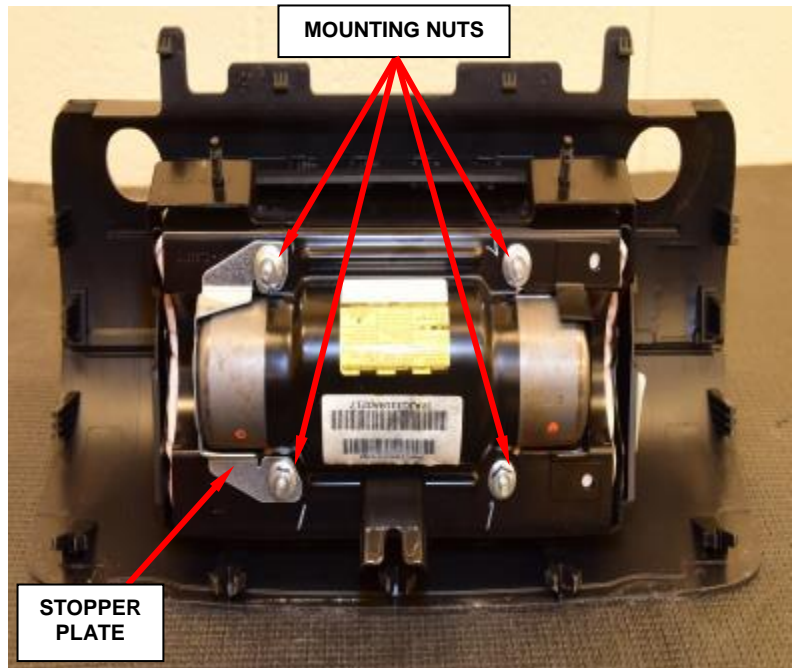

Figure 99 – Mounting Nuts
b. Remove and **discard** the four mounting nuts from the passenger airbag module (Figure 99).